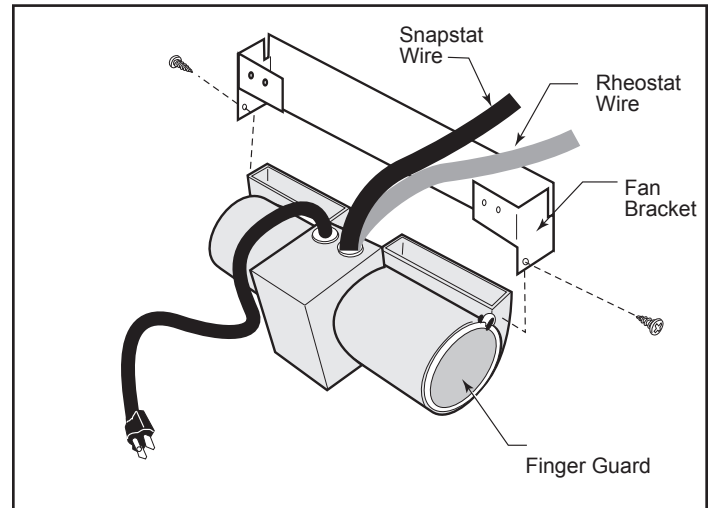

Figure 9 - Attach the fan assembly to the fan bracket.
4. Attach the fan assembly to the fan bracket provided in the log box. Use #10 sheet metal screws provided with fan kit. Do not remove finger guard screws. (Figure 9)